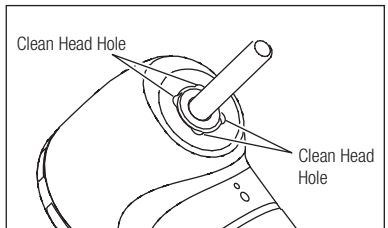

Fig. 8
- 1) Remove dirt and debris from the Clean Head Holes (Fig. 8).